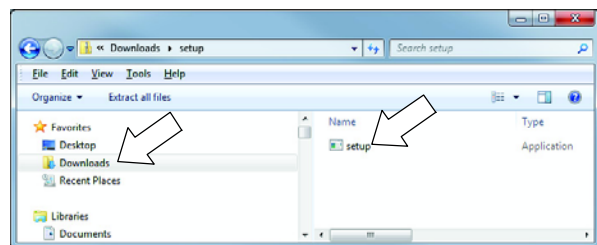

FIG. 10
- Open the Downloads folder and click on the “Setup” file to install the application software onto the computer. (Fig. 10)